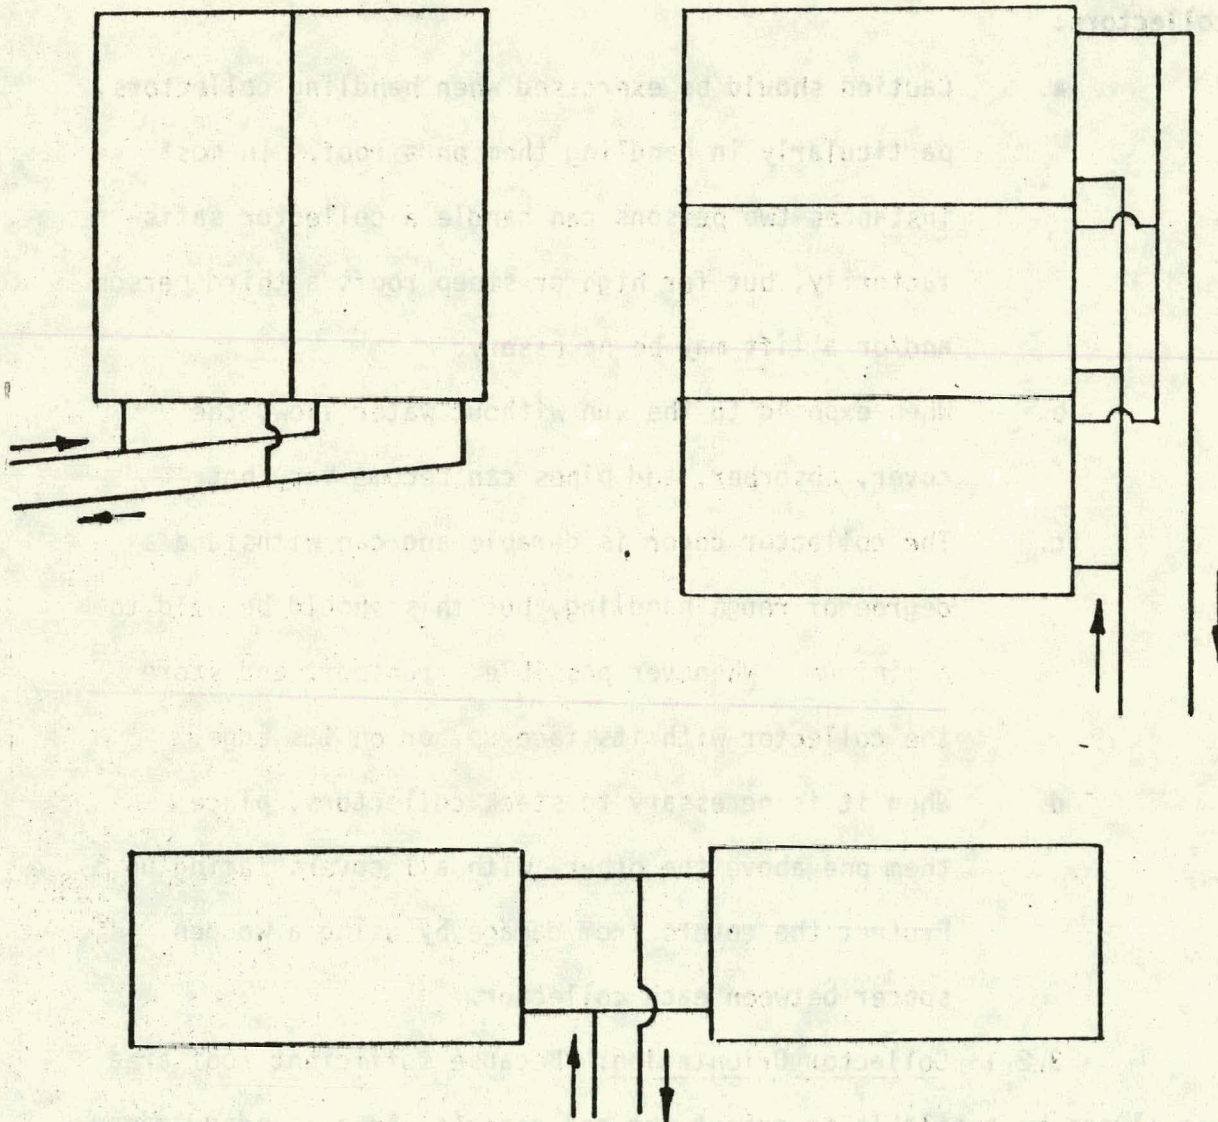

FIGURE 3.2.1.1.
3.2.1 Collector Orientation: Because sufficient roof area may not always be available to orient the collector(s) in a standard manner, a variety of collector groupings has been analysed. Figure 3.2.1.1 illustrates these orientations and their correct plumbing interconnections. Any of the groupings is satisfactory, and may be chosen for space, esthetics or any other reason.